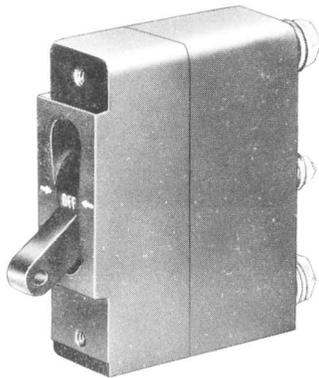

Fig. 1—Typical Small Circuit Breaker Without Nameplate (Old Style)
1.03 Typical small circuit breakers are illustrated in Fig. 1 through 6.